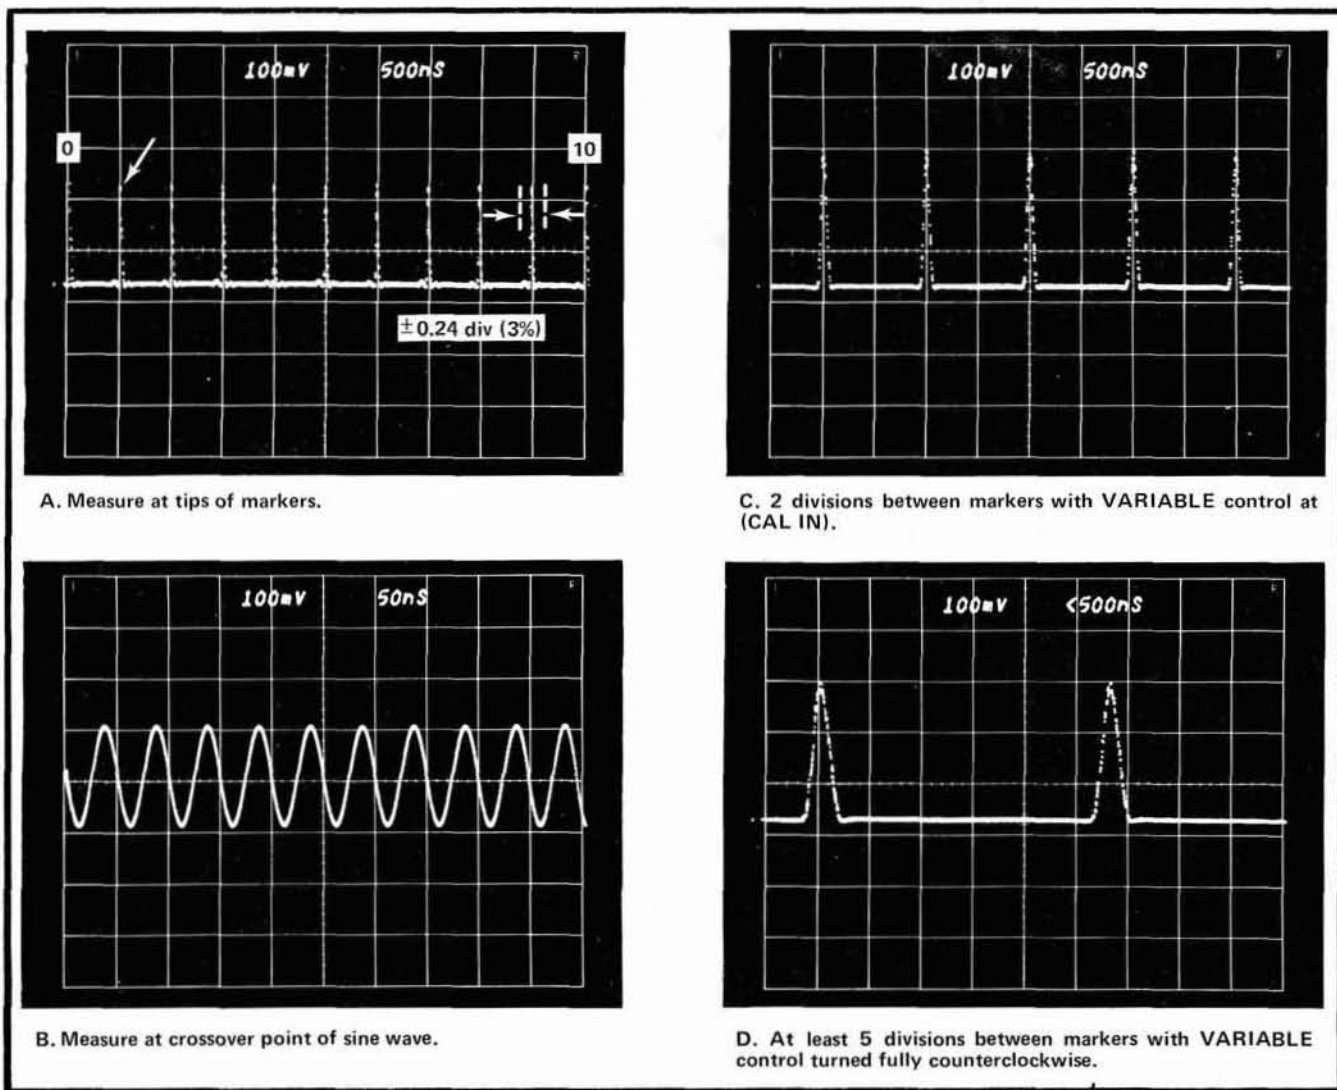

Fig. 5-4. Typical displays for checking timing accuracy.
c. Obtain a stable display with the TRIG LEVEL control and set the SCAN control as needed. Check the timing accuracy of the 7T11 according to Table 5-1, see Fig. 5-4. Check the timing with the TIME POSITION control turned counterclockwise to exclude the first part of the sweep as listed in Table 5-1. Make note of the tolerance at the TIME/DIV switch positions and compare to the SWEEP RANGE switch positions.